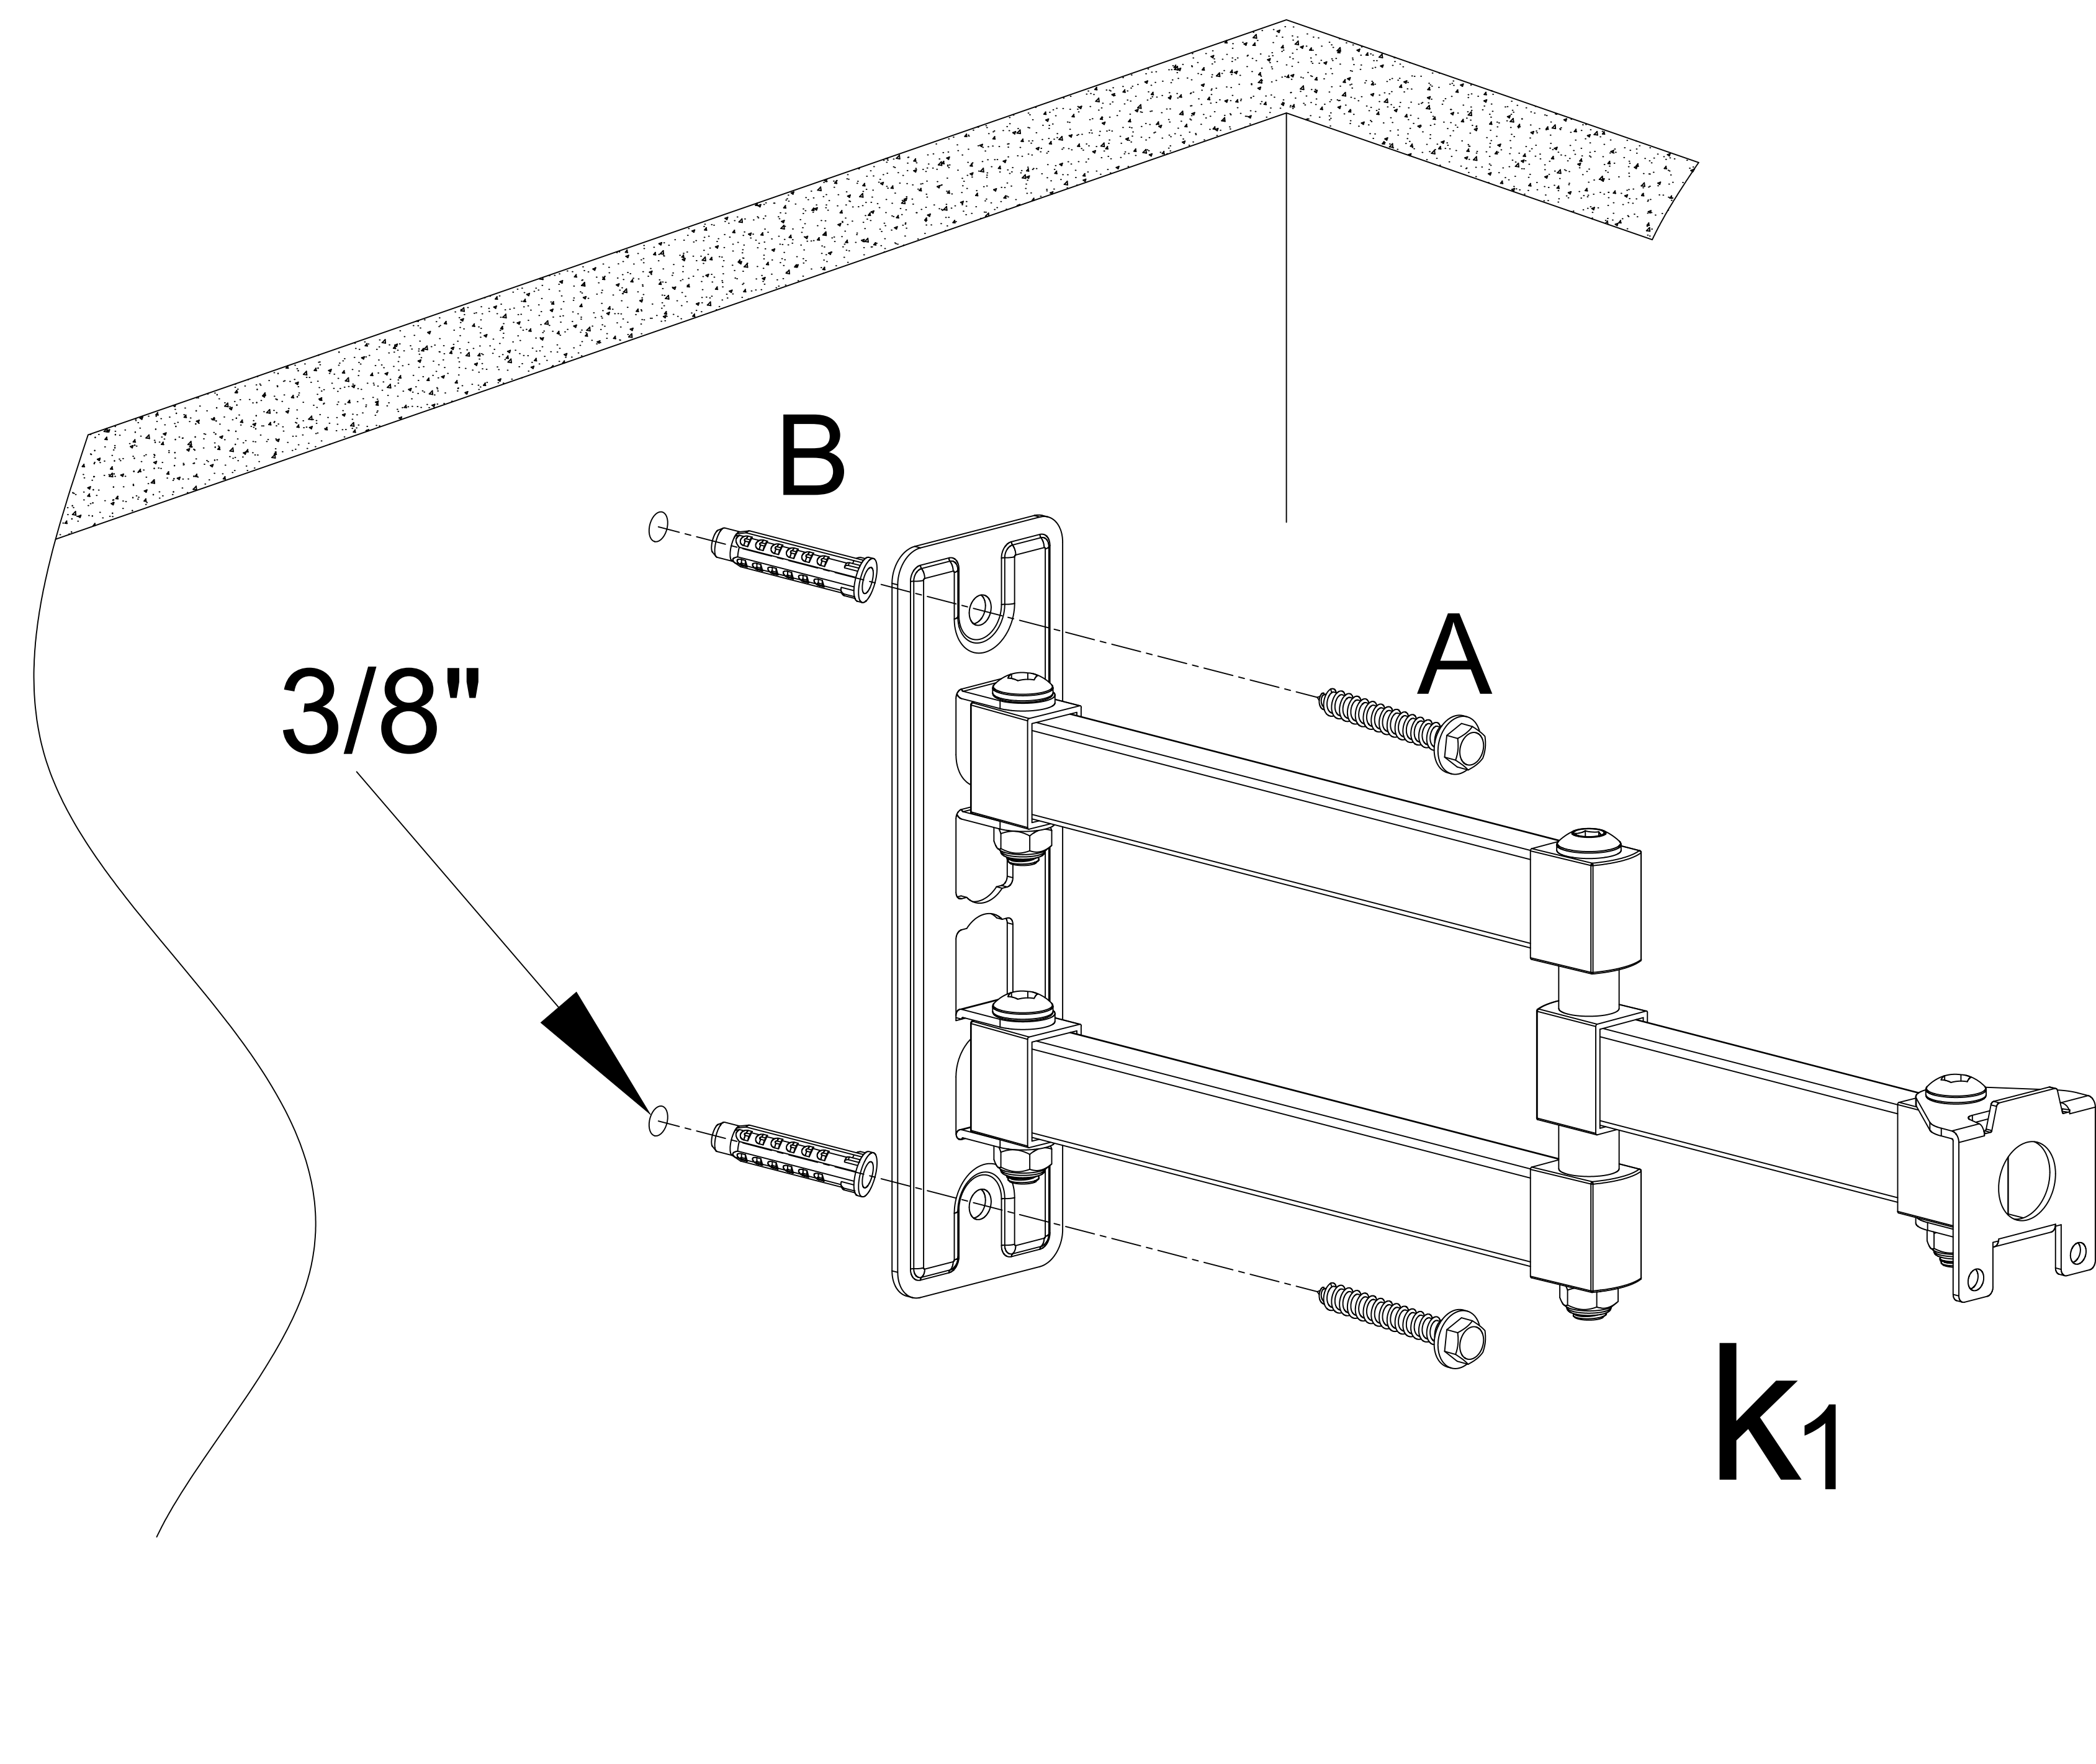

Figure 2 (keep the wall plate level)
Step 2: Pls remove the plaster board on the surface of concrete wall when assembling mount on the concrete wall. Hold wall plate (K1) against wall at desired position on concrete wall, then using a pencil mark 2 hole locations . Then drill holes according pencil marks using 3/8" size drill bit to a depth of 2.36" . Then you will need to use wall anchors (B). Insert wall anchors (B) into holes, you may need to use hammer to lightly tap wall anchors into wall. Then fix wall plate (K1) to the wall with screws(A). (Figure 2)